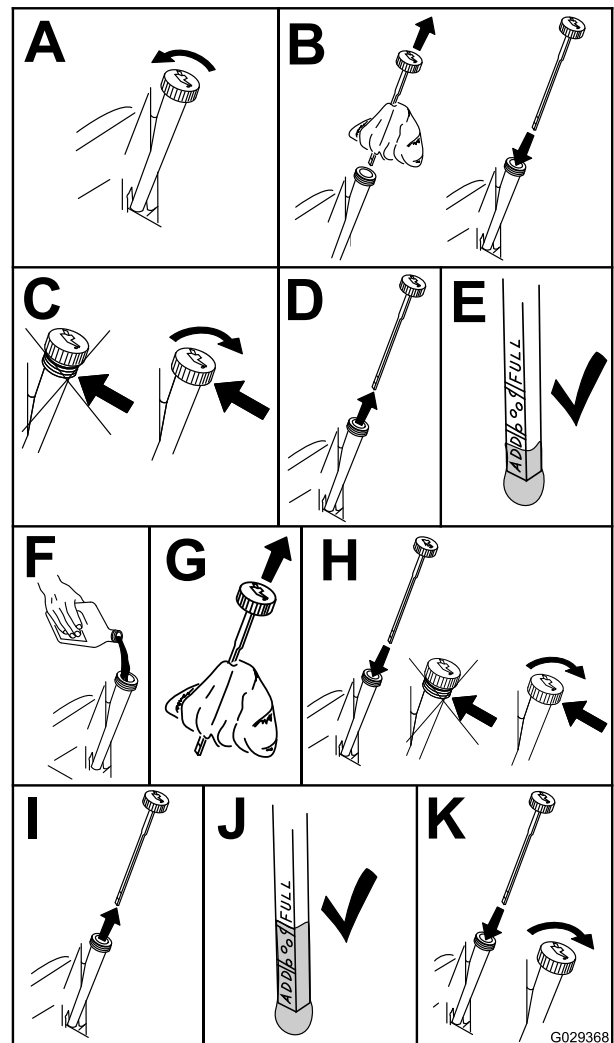

Figure 27
3. To keep dirt, grass clippings, etc., out of the engine, clean the area around the oil-fill cap and dipstick before removing it (Figure 27).